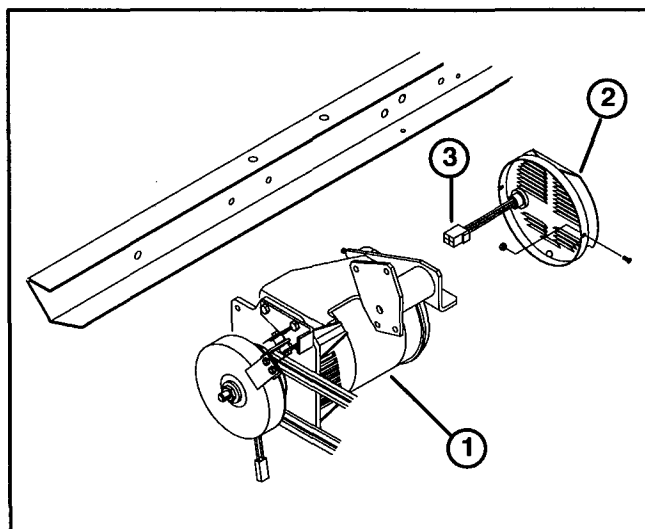

Figure 13
48. Place generator assembly on floor beneath right frame rail (Fig 13).
49. Route generator cover and harness from control box, along underside of vehicle frame, along cross member and above belly guards to generator (Fig 13).
51. Mount generator cover to generator with (2) M5-80 x 16 screws and nuts (Fig 13).